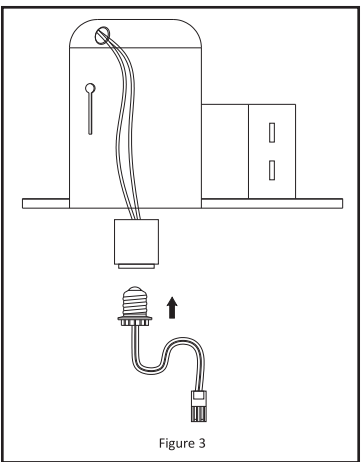

Figure 3
- Disconnect the orange plug on the Edison base adapter from the fixture and install the Edison base into the socket. **See Figure 3.**